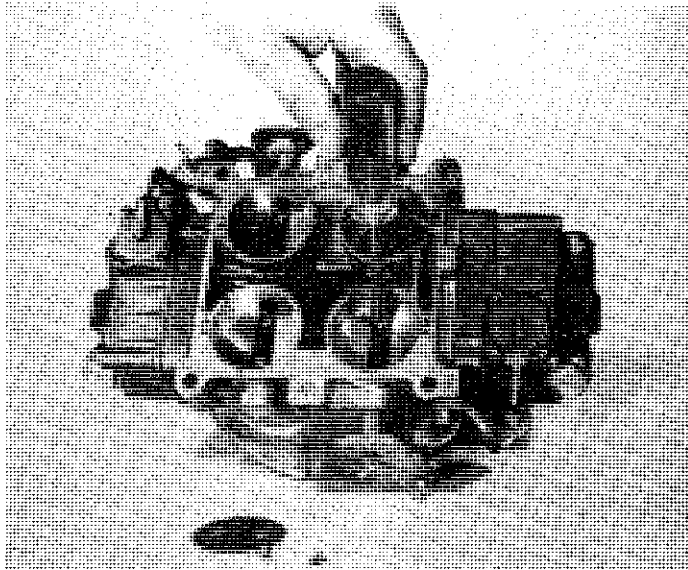

Fig. 1
1. Remove the primary throttle plate screws, and remove throttle plate. (See Fig. 1)